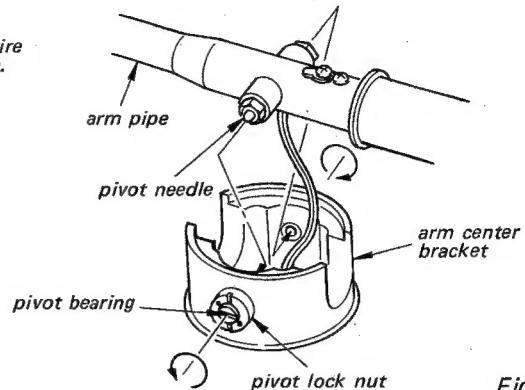
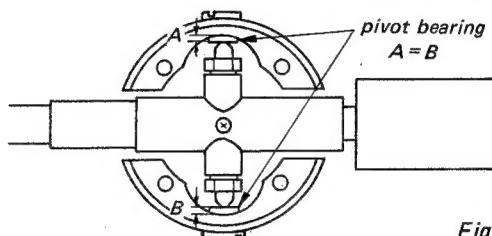

Fig. 5
Fig. 6
5. Install the arm pipe to the rotation shaft ass'y. 1) Loosen the pivot bearings and lock nuts. 2) Install the pivot needle as shown in Fig. 5. Temporarily, secure the two bearings for A = B as shown in Fig. 6. Do not tighten the two bearings strongly.